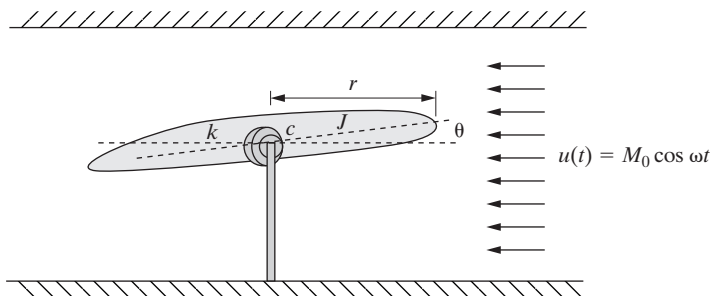

Figure P2.36 Model of an airfoil in a wind tunnel including the effects of damping.
- 2.36.** Consider the system of Problem 2.15, repeated here as Figure P2.36 with the effects of damping indicated. The physical constants are $J = 24 \text{ kg m}^2$, $k = 2500 \text{ Nm/rad}$, and the applied moment is 5 Nm at 1.432 Hz acting through the distance $r = 0.5 \text{ m}$. Compute the magnitude of the steady state response if the measured damping ratio of the spring system is $\zeta = 0.01$. Compare this to the response for the case where the damping is not modeled ($\zeta = 0$).